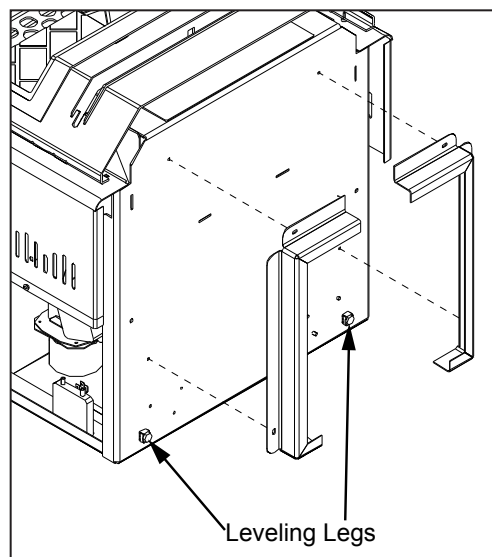

Figure 8: Installing Pedestal.
There are two parts to the Meridian insert pedestal and they can be found inside the hopper. Place unit on its back. Two (2) hex head screws are used on each side of the pedestal (refer to Figure 8). Using a $\frac{5}{16}$ " wrench or socket attach the pedestal to the bottom of the unit.